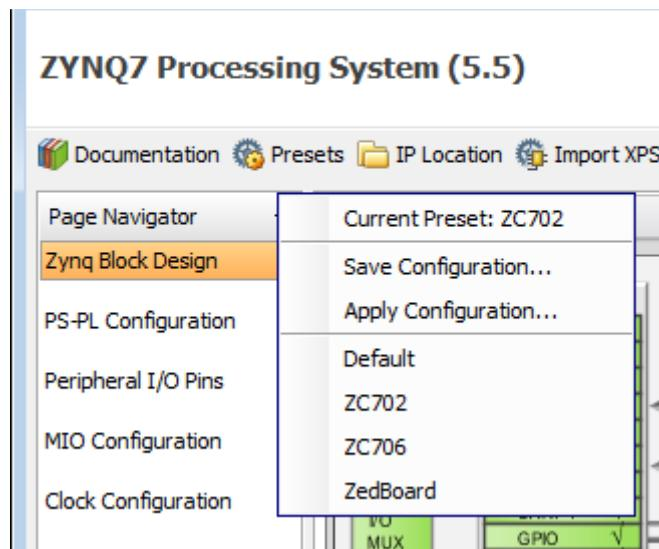

Figure 2-8: Preset Options
- **Presets:** Click this button to view information about the available preset options. User can save the current configuration of PS7 to a file or apply a pre-existing configuration to configure the current instance of the processors. Presets can also be applied to a target board. The available options are Default, ZC702, ZC706, and Zedboard as seen in Figure 2-8, page 14.